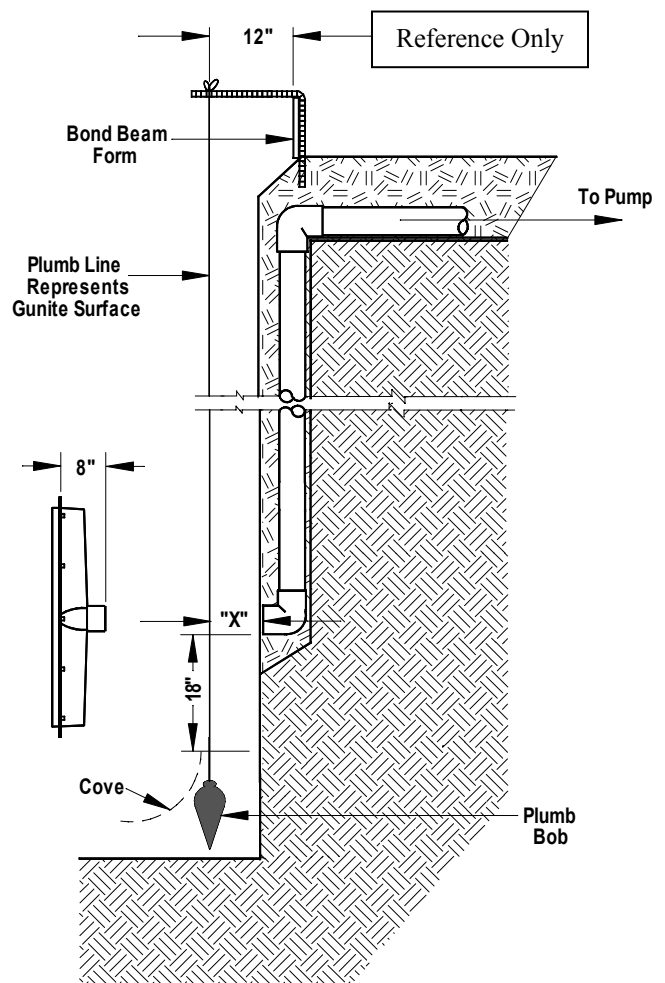

Figure 1
1. The side wall Channel Drain should be located in the wall at the deepest part of the pool and mid-way down that wall. The bottom of the 90° Ell that feeds the drain must be a minimum of 18 inches above the top of any cove (see Figure 1), and the upper edge of the drain sump must be placed at least 12 inches below the bond beam form.
2. Dig a niche down the wall of the pool at the desired location of the Channel Drain. The niche must be at least 12 inches wide and the back of the niche must be 12 inches to 14 inches from the final finish surface of the pool (see Figure 1).
3. To determine the correct depth of the niche, drop a plumb line 12" from the front of the bond beam form. This line will represent the gunite or shotcrete wall surface. (See Figure 1 that illustrates a plumb line tied to a rebar bent and extending over the bond beam form.)